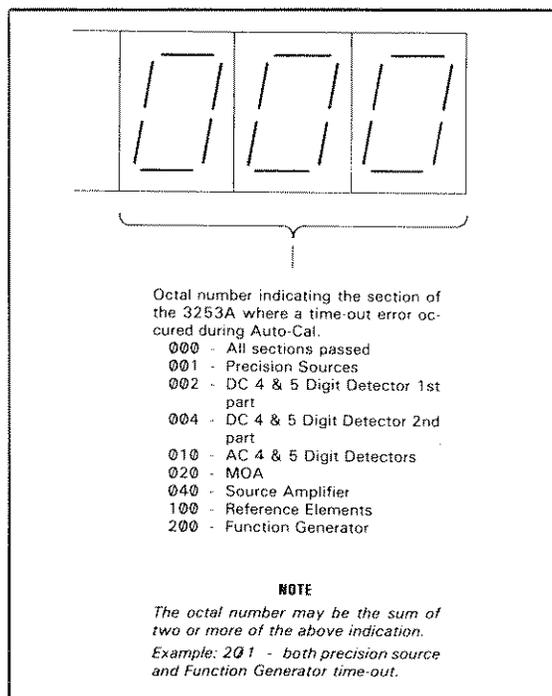

Figure 3-17. T32 Front Panel Display.
**3-28. T32, Automatic Calibration (Auto-Cal).** Automatic Calibration (auto-cal) is an internal test routine that measures calibration constants and stores correction factors. A normal auto-cal routine is performed in about three seconds and upon completion display three zeros on the front panel. If during the routine a time-out (can not perform a measurement) occurs a diagnostic message is displayed on the front panel, Figure 3-17 explains the diagnostic code. For best test results an auto-cal routine should be performed every ten minutes or prior to precision measurements.